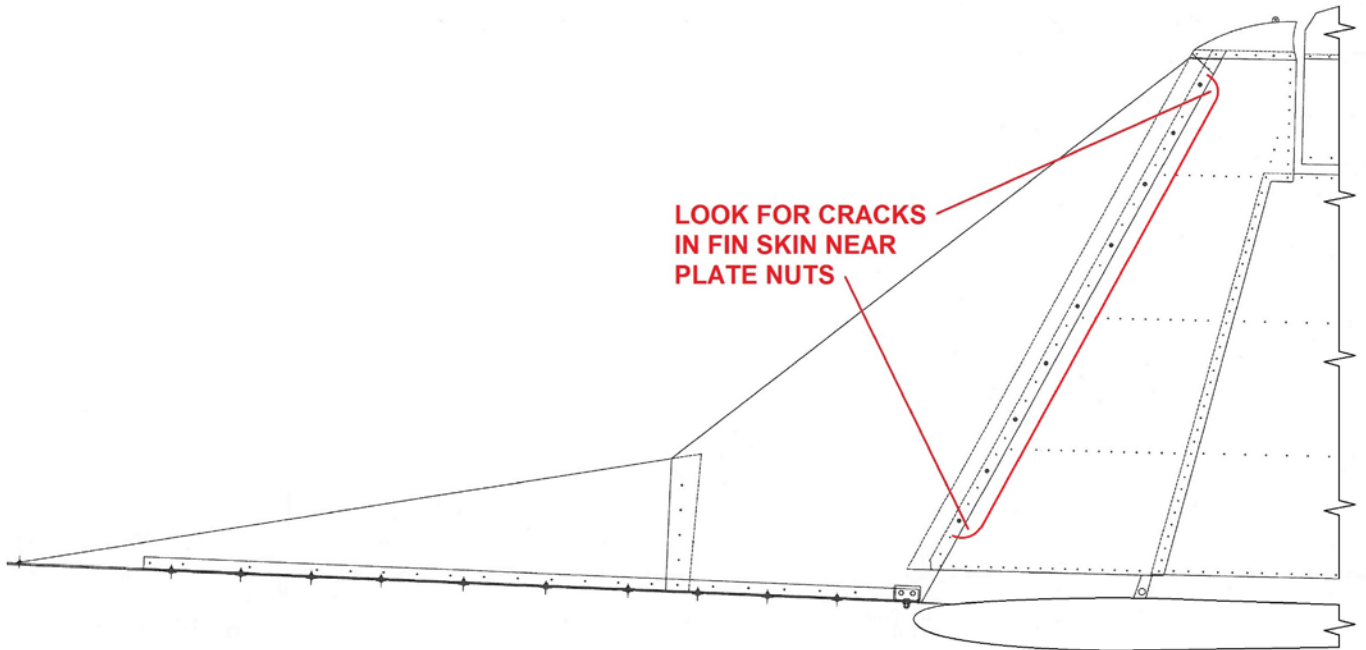

Figure 55-1: Vertical Fin Leading Edge Skin Inspection Area
BEFORE NEXT FLIGHT: (see Figure 55-1, -2, -3 & -4)
1. Visually inspect the vertical fin skin for cracks immediately aft of the dorsal fin in the vicinity of the screws attaching the dorsal fin to the vertical fin (see Figure 55-1). If cracks are detected, proceed immediately to the periodic inspection, page 5.